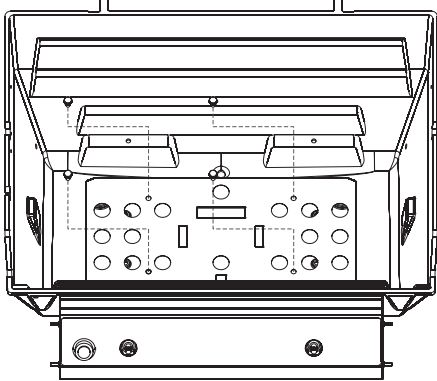

Figure 1
2. Place radiation shield (13) (flange side up) onto four raised bosses located on the interior bottom of the grill. Secure with four 1/4-20 x 3/4 screws. See Figure 1.